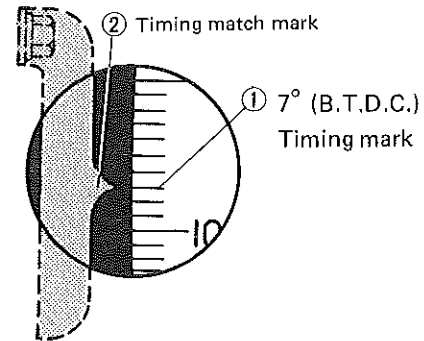

Fig. 9-17
- 1) Turn over crankshaft in normal direction to index the 7° (B.T.D.C.) timing mark ① to the timing match mark ②. The 7° mark is the one provided on flywheel. See Fig. 9-17. Normal direction of crankshaft is clockwise as viewed from crankshaft pulley side.